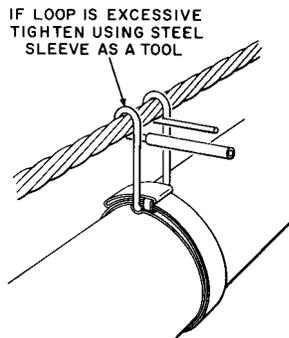

Fig. 17—Bending Wire Around Strand
(2) Using a steel sleeve or a C socket wrench, bend the wires around the strand and inside the vertical portion of the wire, as shown in Fig. 17, and tighten the loop.